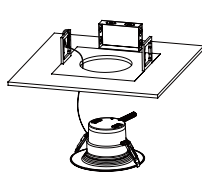

Fig. 3
- Step 3: Attach the carabiner safety clip to the existing fixture housing ( Fig. 3).